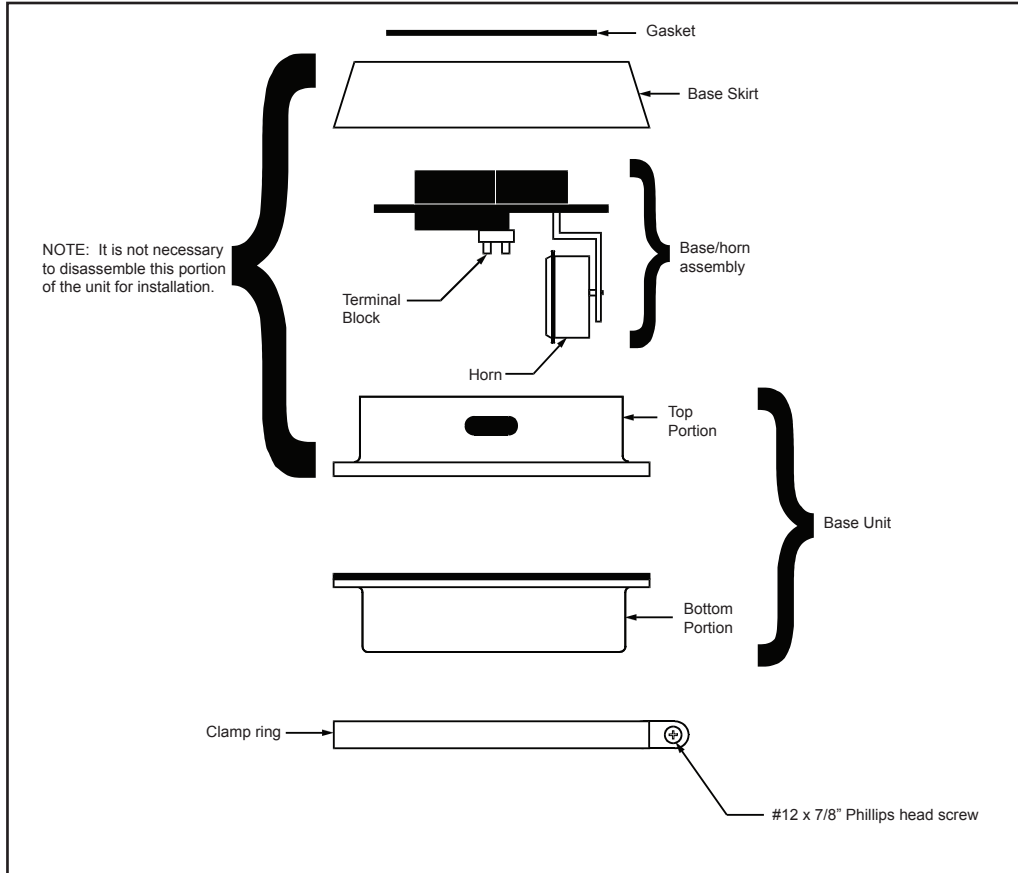

Figure 2. Catalog Series 101BS AdaptaLight Base Unit Assembly
1. Mount the base vertically either facing up or down using one of the following procedures (Figures 2 and 3).
Assemble the base unit and place the base gasket on top as shown in Figure 2.
- b. Remove three phillips head screws from top of base skirt and the base/horn assembly from the top portion of the base (Figure 2).
- c. Remove the phillips head screw securing the horn to the mounting bracket (Figure 2).